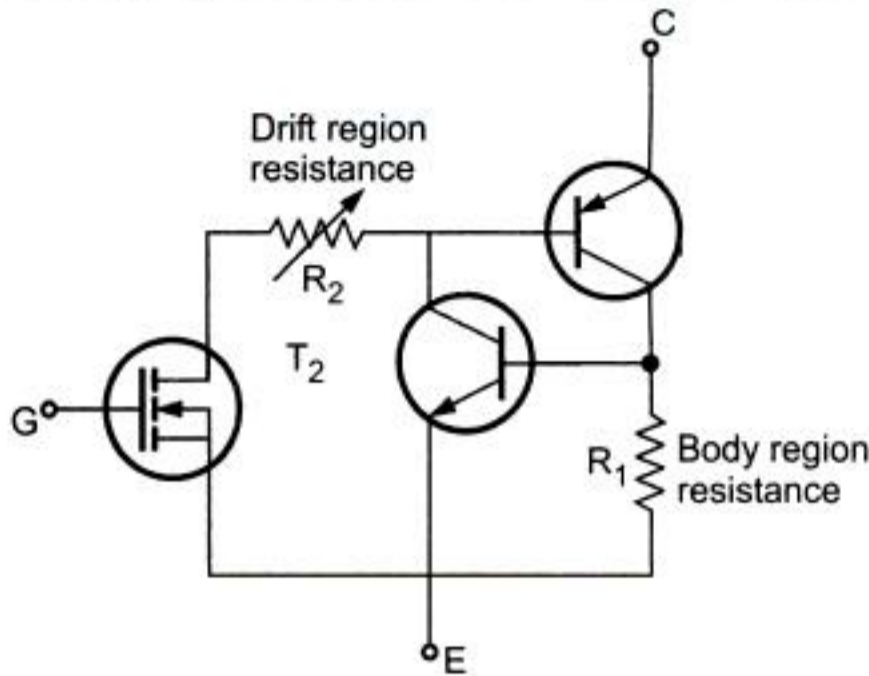

Fig. 1.4.5 Equivalent circuit of IGBT
The connection of T_1 and T_2 is such that large amount of hole/electrons are injected in n^- drift region. The action of T_1 and T_2 is like SCR which is regenerative. The gate serves as trigger for T_1 through internally formed MOSFET. Fig. 1.4.5 shows the equivalent circuit. In this Fig. 1.4.5 observe that when gate is applied ($V_{GS} > V_{GS(th)}$), the internal equivalent MOSFET turns on. This gives base drive to T_1 . Hence T_1 starts conducting. The collector of
- **Causes of latchup :** The current in p-type body region flows vertically as well as laterally. In equivalent circuit of Fig. 1.4.5 observe that the lateral component of